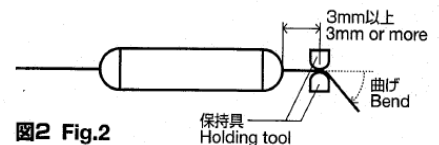

図2 Fig.2
4. When bending a lead wire for installation, fix the part of the lead between the body and the lead section to be bent using a tool, and gently bend the lead section that is at least 3 mm from the body. Never hold the body with a tool (fig 2)